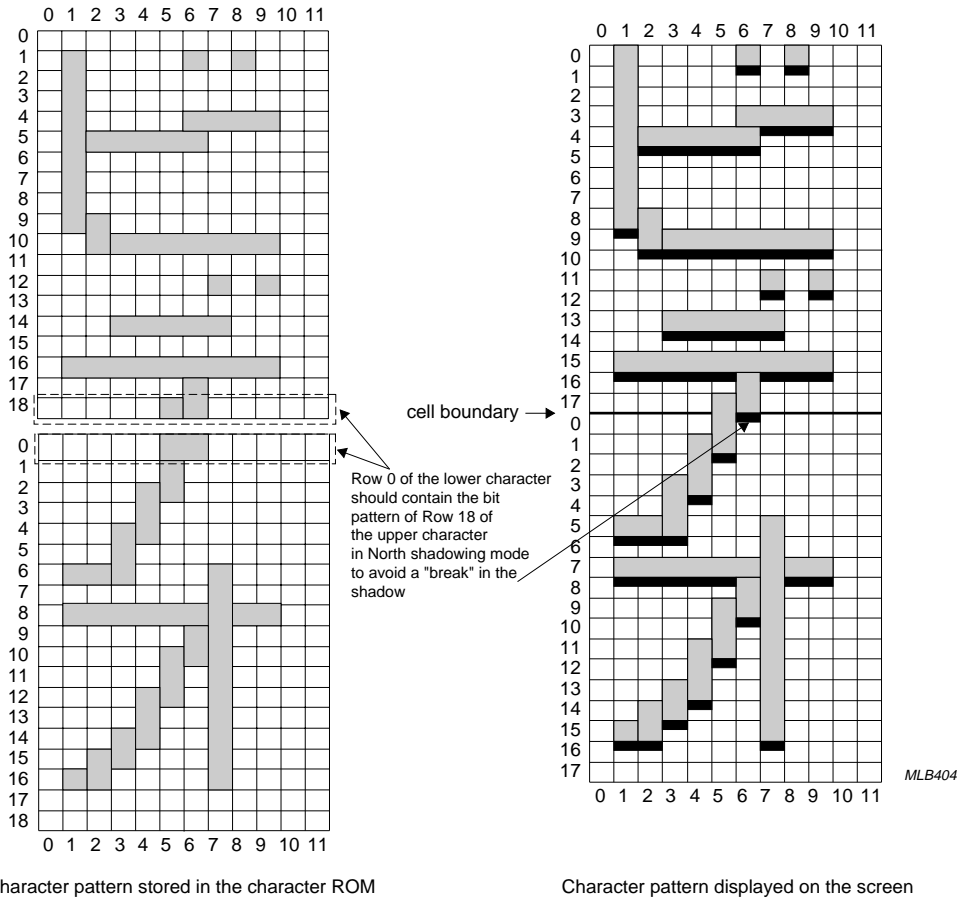

Fig.21 Combination of two character fonts in a vertical direction - without gap.
- If the North shadowing mode is selected then when combining two character cells in a vertical direction Row 0 must contain the same bit pattern as held in Row 18 of the character directly above it. This is shown in Fig.21.